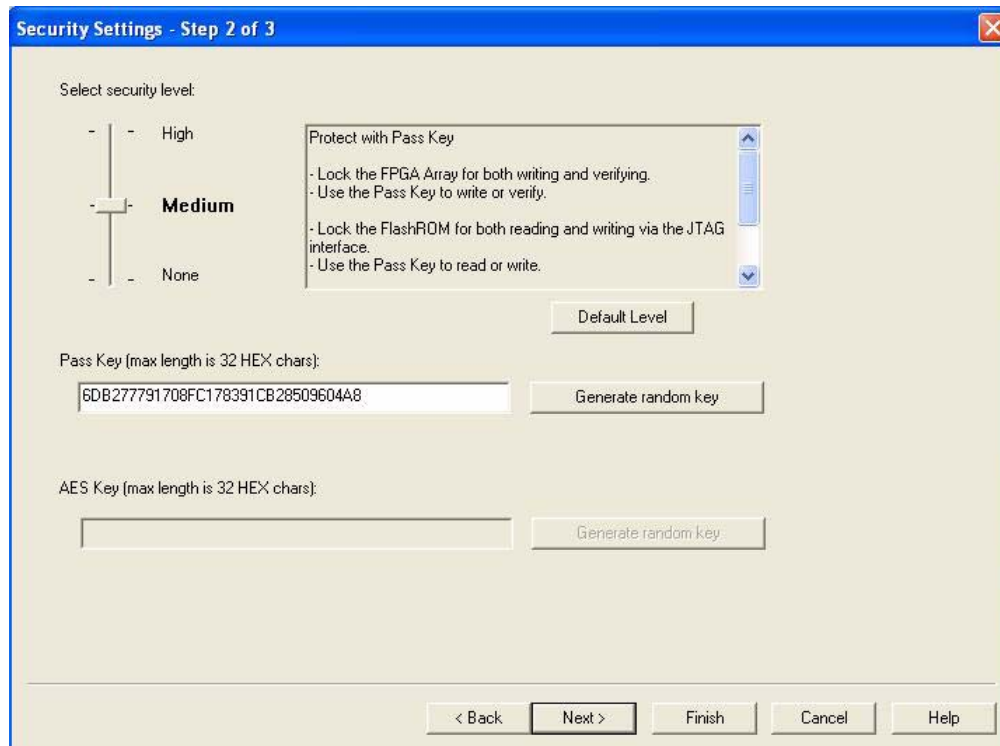

Figure 13-12 • Medium Security Level Selected for Low-Power Flash Devices
2. Choose the appropriate security level setting and enter a FlashLock Pass Key. The default is the **Medium** security level (Figure 13-12). Click **Next**.